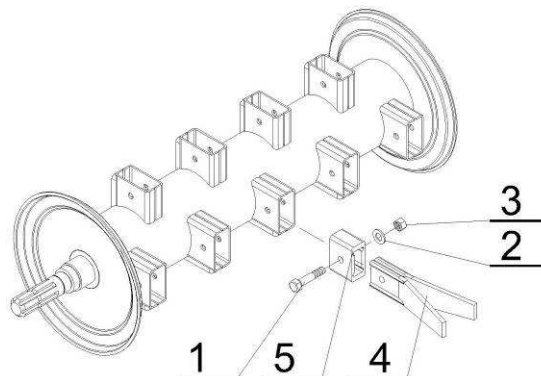

Fig. 21. Replacing the conditioner's shaft
To disassemble the flail unscrew nut (M12 z. Property Class 8.8) with open wrench (19), taking both the bolt M12x55 z. Property Class 8.8 and the flail out. To mount new flail follow the steps in the opposite order (**Fig. 21**).